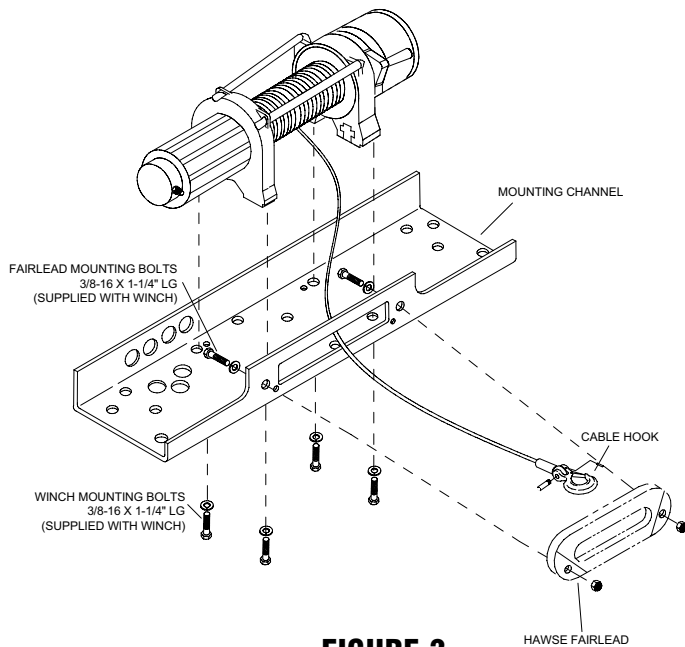
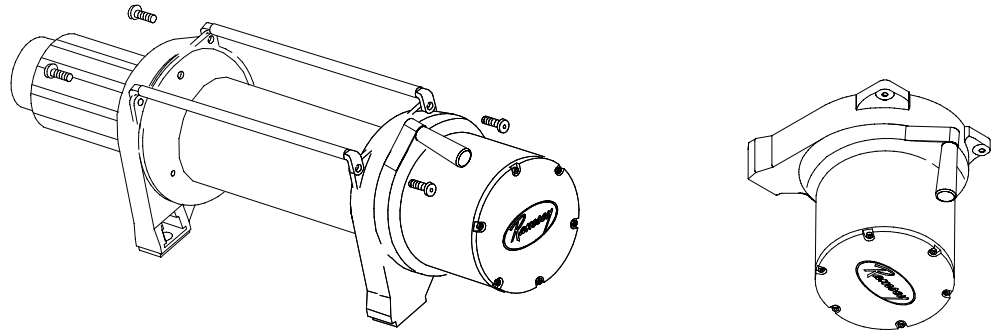

FIGURE 3
Figure 4
Attach fairlead to channel using hardware furnished with winch (see FIGURE 3) before mounting winch in channel. Place (4) flat washers and nuts into pockets of winch mounting feet and thread capscrews with lock washers through mounting holes in channel and into hardware in winch feet.
Place end of drum cable through fairlead and attach cable hook. Use clevis pin and cotter pin (see FIGURE 3).
1. Position winch as shown in Figure 4. Remove screws from tiebars. You may be able to loosen the screws at the motor end without removing them. Pull the Gear Housing assembly from the drum and shaft and set it down on the work bench with the Gear Housing Cover up. Remove the drum bushing from the Gear Housing assembly or the end of the drum. Set aside.
2. Remove (6) capscrews from the Gear Housing Cover. Holding the Gear Housing Cover over the Gear Housing assembly, flip it over and set it on the workbench.
- Reassemble Gear Housing as shown in Figure 3. Make sure locking ring is positioned with stop post at marked location. The capscrews (item #38) for the retainer should be tightened to 40-45 in-lbs. **Do not over-tighten.**
- Place Gear Housing over the stacked gears, etc. that you removed in step 3. Gently work the housing over the stack, turning it as needed to mesh the planetary gears with the ring gear in the housing. Once they are all in the housing, flip the assembly over. Align the Gear Housing Cover and gasket with the holes in the ring gear. Replace the (6) capscrews that hold the Gear Housing Cover onto the Gear Housing. Tighten securely.
- Turn the Gear Housing over and set it on the work bench with the Gear Housing Cover down. See Figure 4.